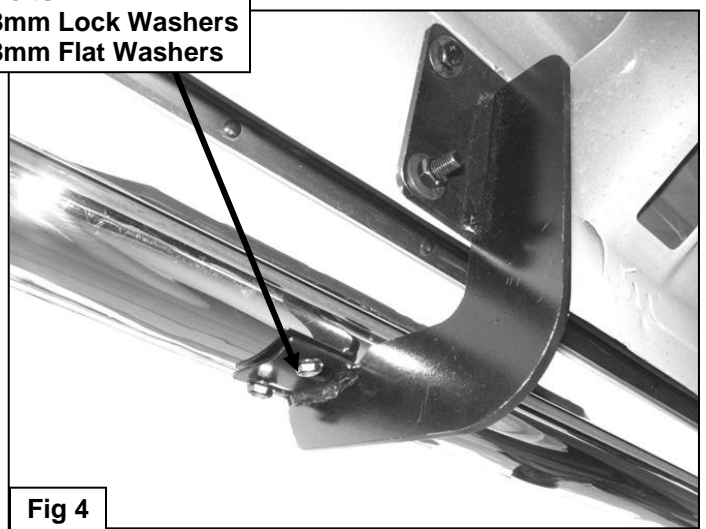

Fig 4
7. Carefully unwrap and position the Sidebar onto the Mounting Brackets. Bolt the Sidebar to the Brackets with (4) 8mm x 25mm Hex Bolts, (4) 8mm Lock Washers, and (4) 8mm Flat Washers, **(Figure 4)**. Do not tighten at this time.